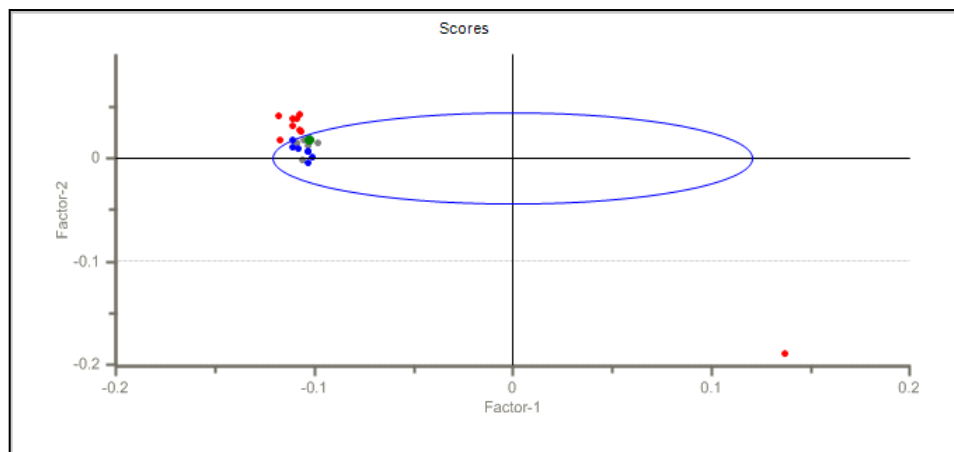

Figure 53 - Scores Scatter plot with Hotelling's T2 Ellipse
2. *Scores Scatter plot (with Hotelling's T^2 ellipse)*: When the scores are plotted as a scatter plot, the default plot is of PC1 vs. PC2. Other 2-D scatter plot combinations can be chosen from the drop-down menu. In this view (with the *Default* theme) the last point predicted is shown as a larger green dot. Samples outside the limits are displayed as red dots. The last 10 points are shown in blue, and older points are shown in grey for the default settings of the plot. The points color scheme is changed based on the *Theme* selected. See Figure 53 for an example of a 2-D scatter scores plot.